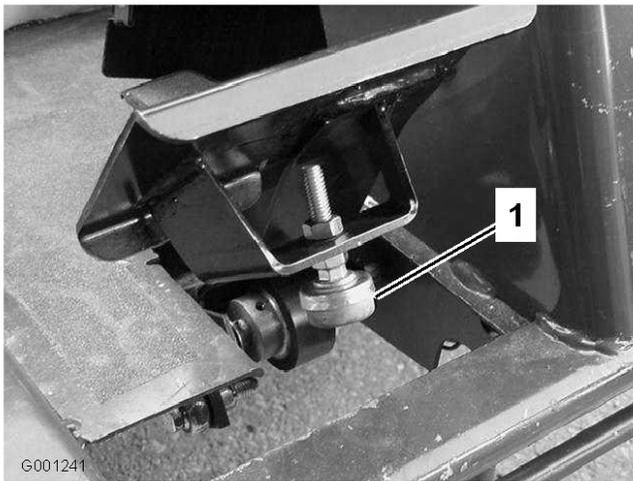

Figure 67
- Check the traction pedal stop adjustment. The pedal stop (Figure 67) should contact the frame slightly before the pump reaches full stroke.